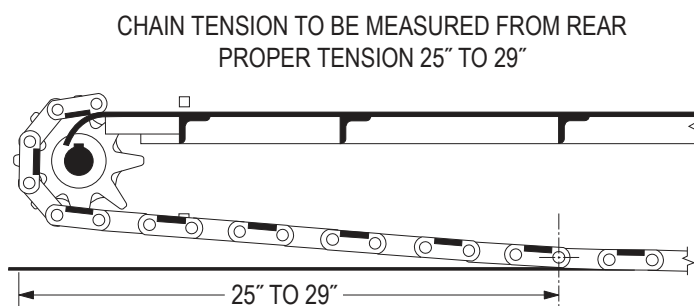

Figure 3
2. Shut the machine off and open the rear access door above the airlock. Remove any built-up material under the floor pan between the chain links and the rear catch pan so that an accurate measurement can be made. Check the tension on the floor chain in the Bark Blower as shown in Fig. 3 below: